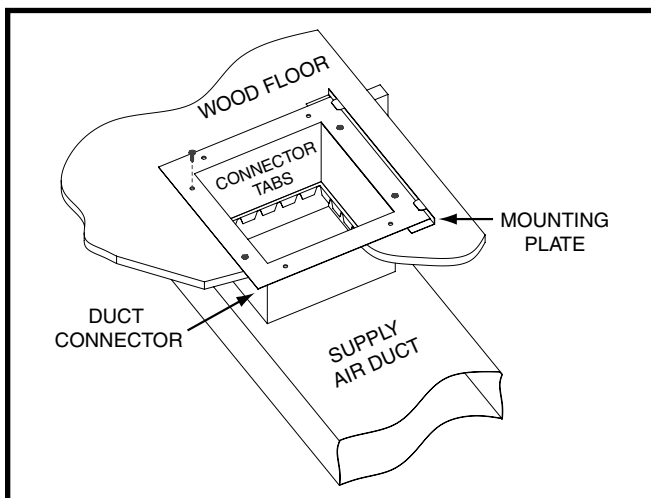

Figure 5. Standard Duct Connector Installed
Duct connectors are recommended for heated air distribution in under-the-floor duct systems. With this system, furnaces may be installed on combustible flooring without a separate sub-base. The furnace rear mounting plate (Figure 5 (page 7)) supplied with the duct connectors is recommended for use with this type of installation.
2. Mark the cut-out area on the supply air duct by tracing around the connector tabs of the duct connector. See Figure 5 \(page 7\).
5. Install the mounting plate (Figure 5) under the back side of the duct connector. Align the screw holes in both components.